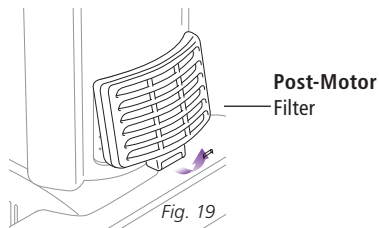

Fig. 19
- 1 Remove the filter cover from the front of the vacuum by pulling up on the tab and pulling the cover away from the vacuum. **(Fig. 19)**